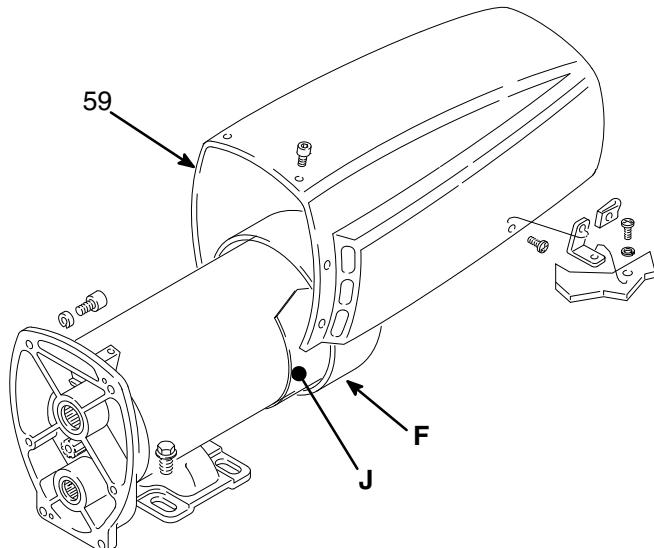

Fig 22-1
Remove the pressure control cover , the motor shield (59), the fan cover (F) and the inspection covers (J). See Fig 22-1.